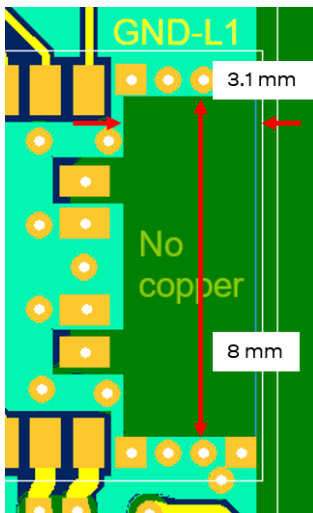

Figure 24: Size of the GND cut out for the NINA-W1x6 module's PCB trace antenna
- The host PCB shall include a full GND plane underneath the entire module, with a ground cut out under the PCB trace antenna according to the description in Figure 24.